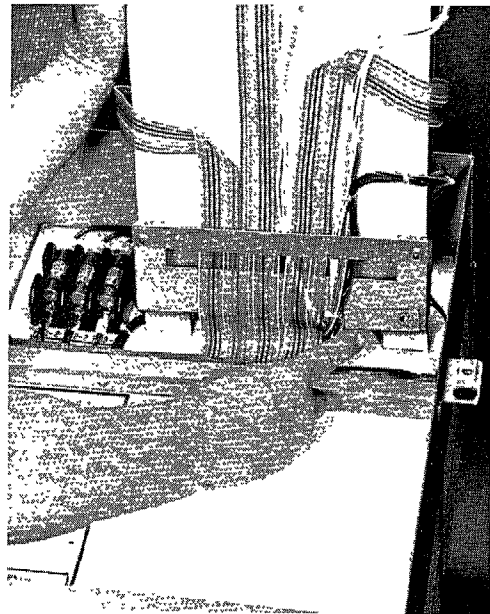

FIGURE 24
- a. Raise the control card assembly and latch in that position (see Figures 24 and 24A).
- a. Raise the control card assembly and latch in that position. (see Figures 24 and 24A)